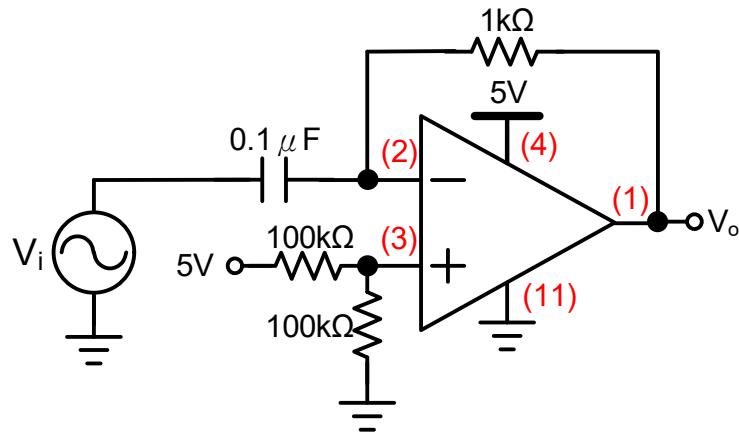

Fig. 3.12 OPAMP differentiator
- (1) Assemble the circuit as shown in Figure 3.12.
- (2) Use $R=1k\Omega$, $C=0.1\mu F$.
- (3) Measure the voltage of pin 1, 2, 3, 4, 11, and record down the values in Table 3.9.
- (4) Provide V_i with a $200mV_{p-p}$, 2.5V offset, 1kHz, 50% symmetry ramp wave signal and observe the output waveform and the input signal.
- (5) Provide V_i with a $200mV_{p-p}$, 2.5V offset, sine wave signal with respective frequency in Table 3.10 and fill up the Table.